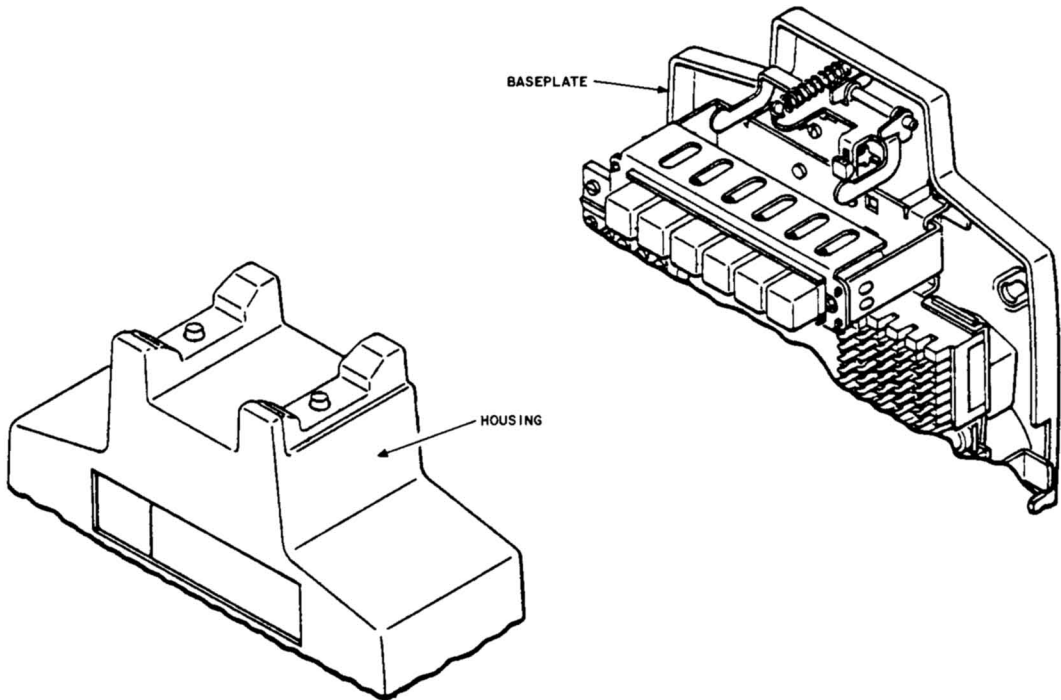
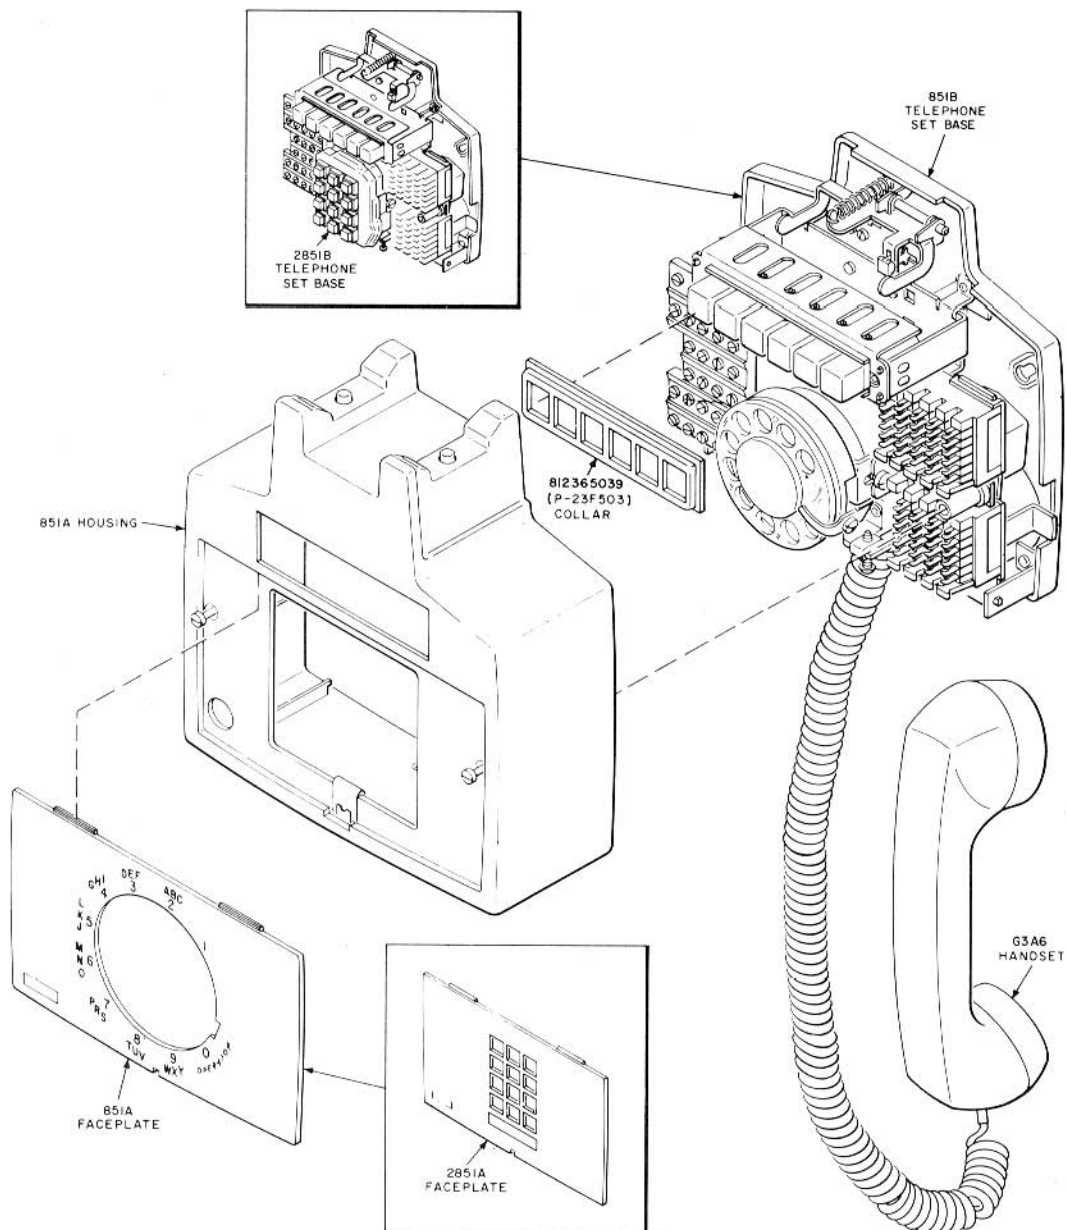

Fig. 17—Early Version Baseplate and Housing
Fig. 18—851B and 2851B Telephone Set, Early Version, Showing 851A Housing and Base Plate
5.05 For field replacement of 851A housing—early version of housing (Fig. 17) can be used with sets equipped with either the early, later, or current baseplate (Fig. 18, 19, and 20). The current housing (Fig. 18 and 19) can not be used with the early version baseplate.